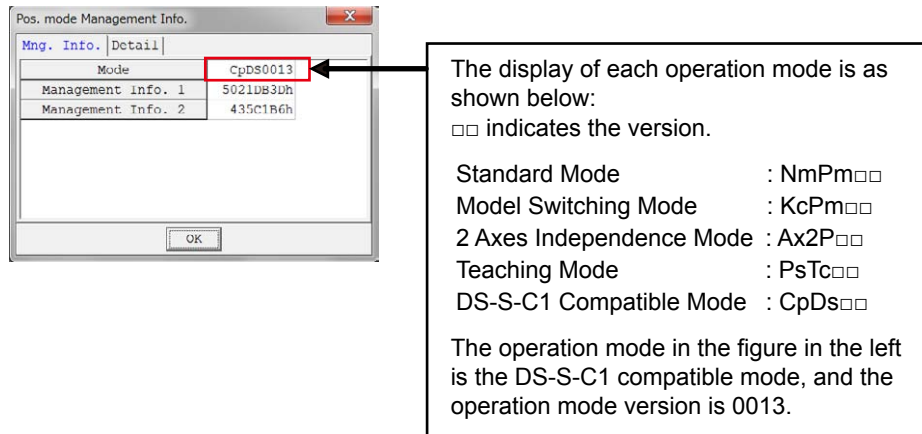

Fig. 1: Positioner Mode Administration Information Window
For the position mode operation mode version, check in Operation Mode in Positioner Mode Administration Information window (Fig. 1) after starting up in the positioner mode. Positioner Mode Administration Information window is displayed by selecting Controller (C) → Positioner Mode Administration Information (M) in the main window of the PC software.